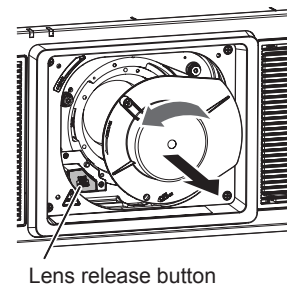

Fig. 2
2) Remove the lens hole cover. (Fig. 2)